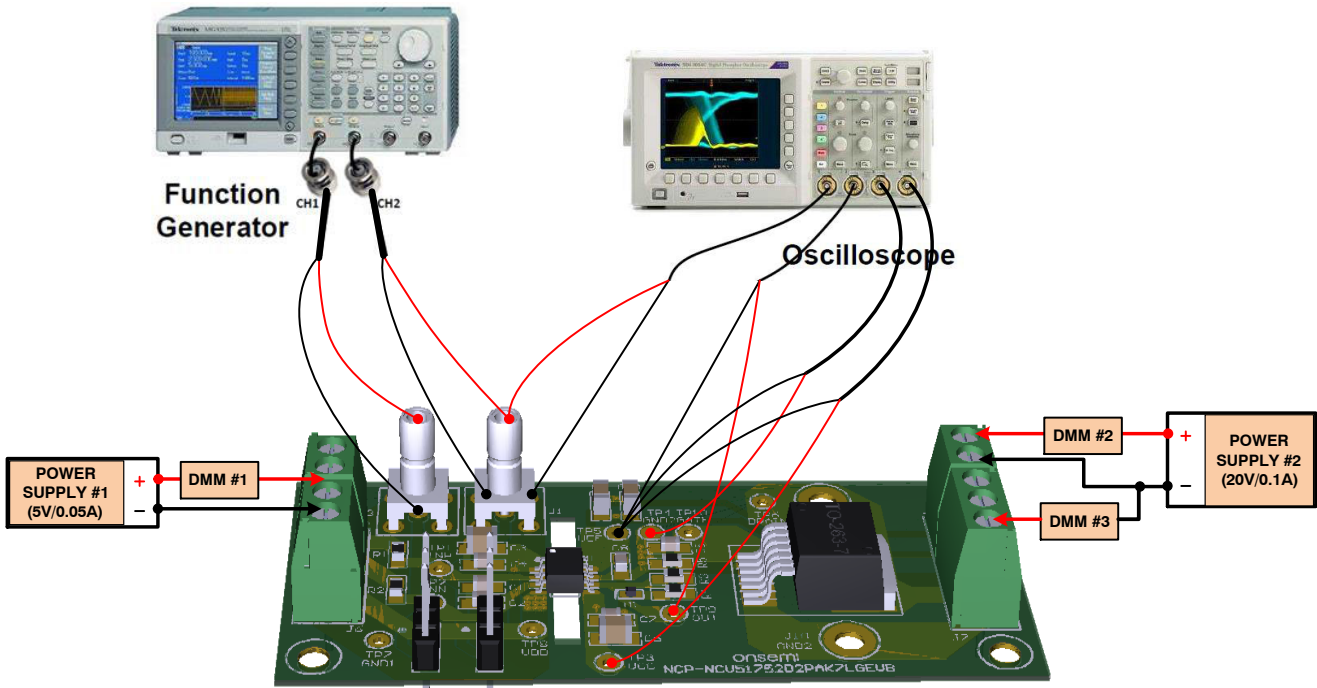

Figure 2. Bench Setup Diagram and Configuration
Follow the connection procedure below and use Figure 2 as a reference.
- Function generator channel-B channel (CH2) applied on IN+ (J1 or J2 pin-1) ↔ TP1 as seen in Figure 2.
- Function generator channel-A channel (CH1) applied on IN- (J3 or J2 pin-2) ↔ TP2 as seen in Figure 2.